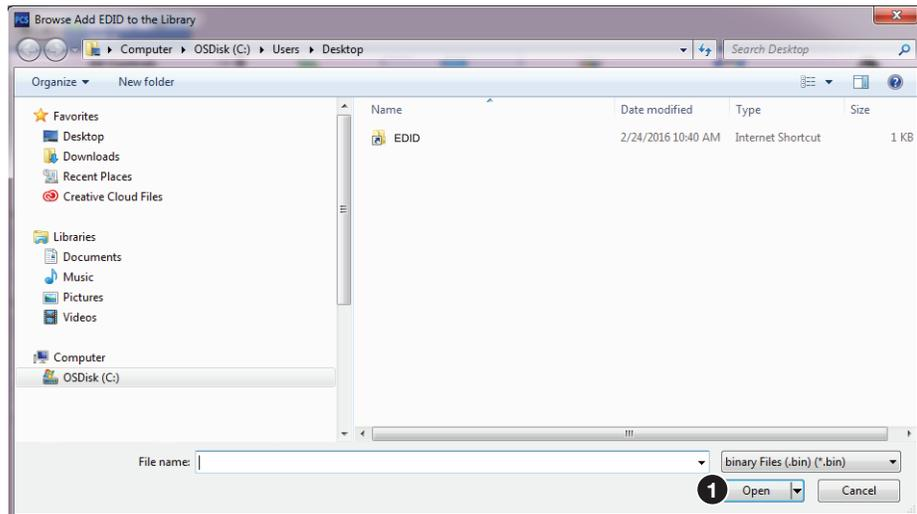

Figure 40. Browse Add EDID to the Library Window
1. Click the **Add EDID to Library** button (**8**). The **Browse Add EDID to Library** window opens (see figure 40).